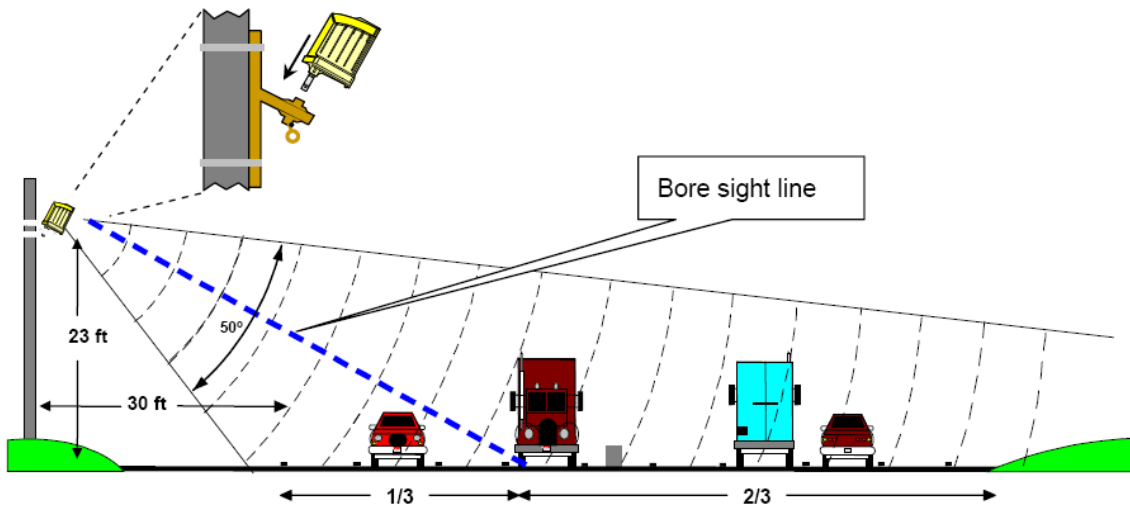

Figure 2.1. RTMS Aiming
Use the diagrams in Figures 2.1, 2.2, and 2.3 to determine the setback required to monitor a given number of lanes. The correct installation height can be determined once the set-back is set. Height is measured relative to the road surface of the detection area. Do not measure height from the bottom of the mounting pole.
3. Aim the RTMS as indicated on Figure 2-1. A 7/16" wrench is required to release/tighten the ball-joint bolt.